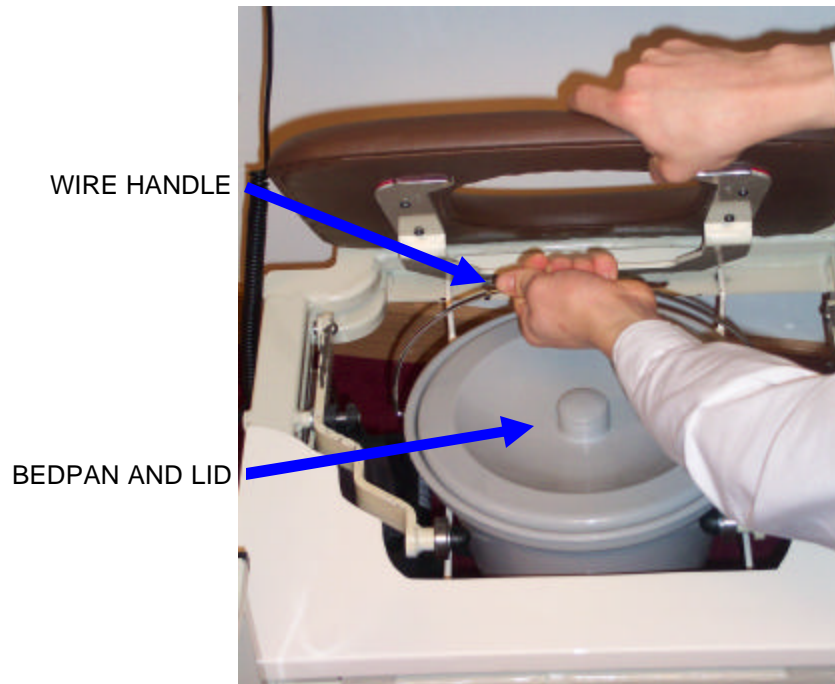

Figure M-7. Bedpan Removal
- a. Lift the seat with one hand. With the lid in place on the bedpan, remove the bedpan from the holder by gently lifting the bedpan with the wire handle as shown in Figure M-7.
- c. Place the bedpan onto the mount as shown in Figure M-7.